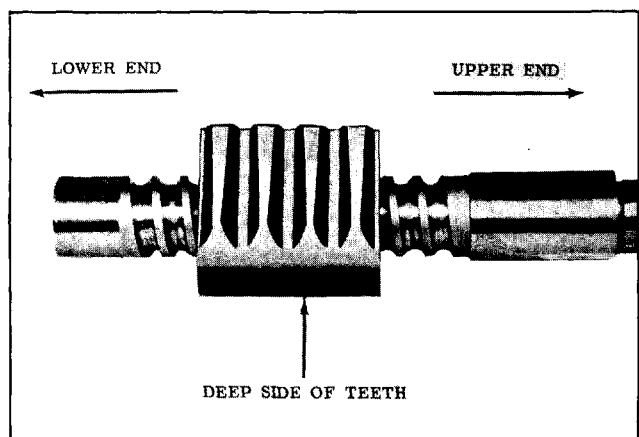

Fig. 9-41 Ball Nut Properly Installed on Shaft
4. Position ball nut on shaft with teeth up so wide or large spaces are toward you when upper end of shaft is toward your right (Fig. 9-41).